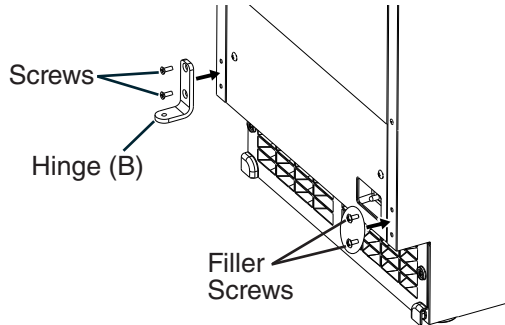

Fig. 4
- 4) Remove hinge (B) from the right side of the unit and the 2 filler screws from the left side. Attach the 2 filler screws to the right side and attach hinge (B) to the left side. See Fig. 4.